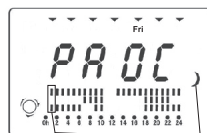

Fig. 16
- Operation in Eco mode on Tuesday from 0:00 to 01:00 hours in the morning (fig. 16)